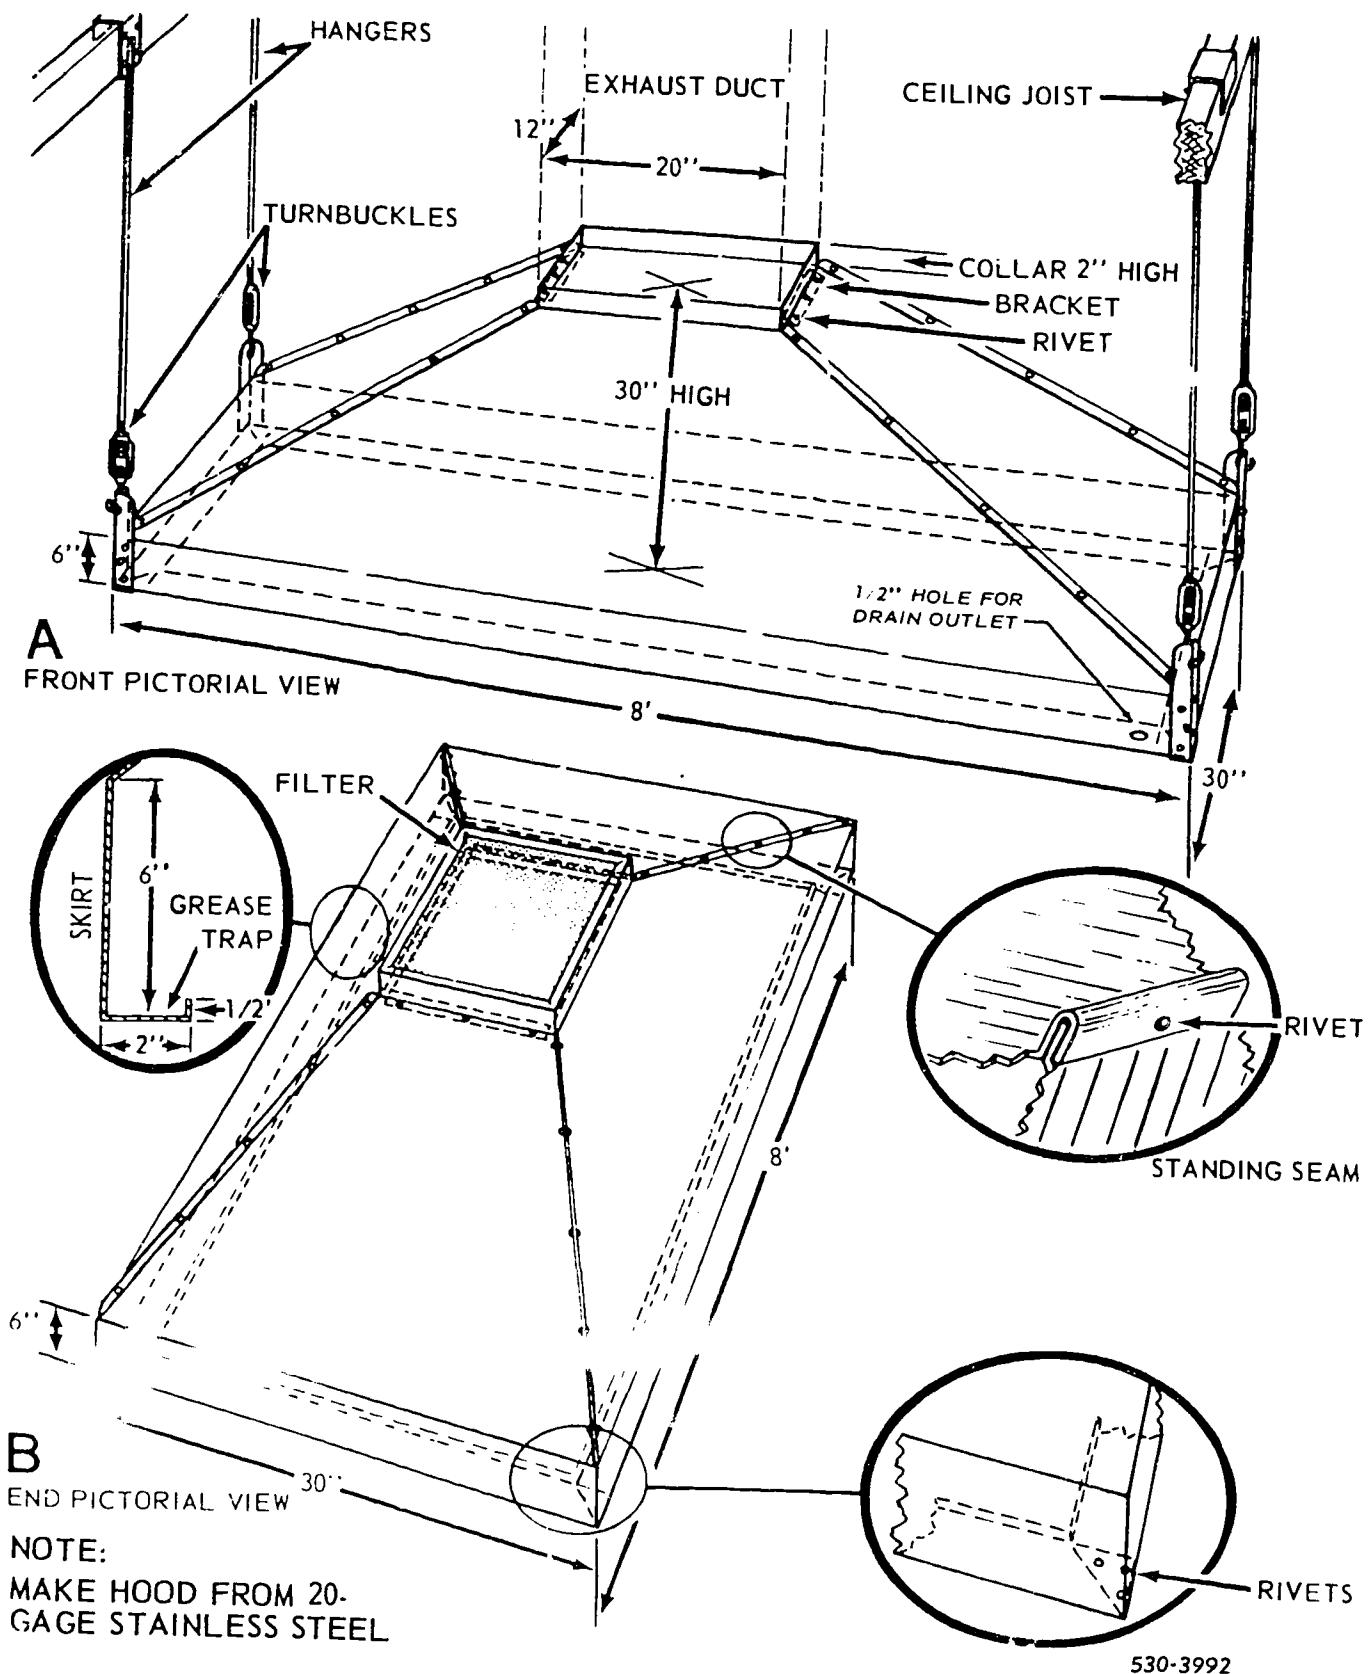
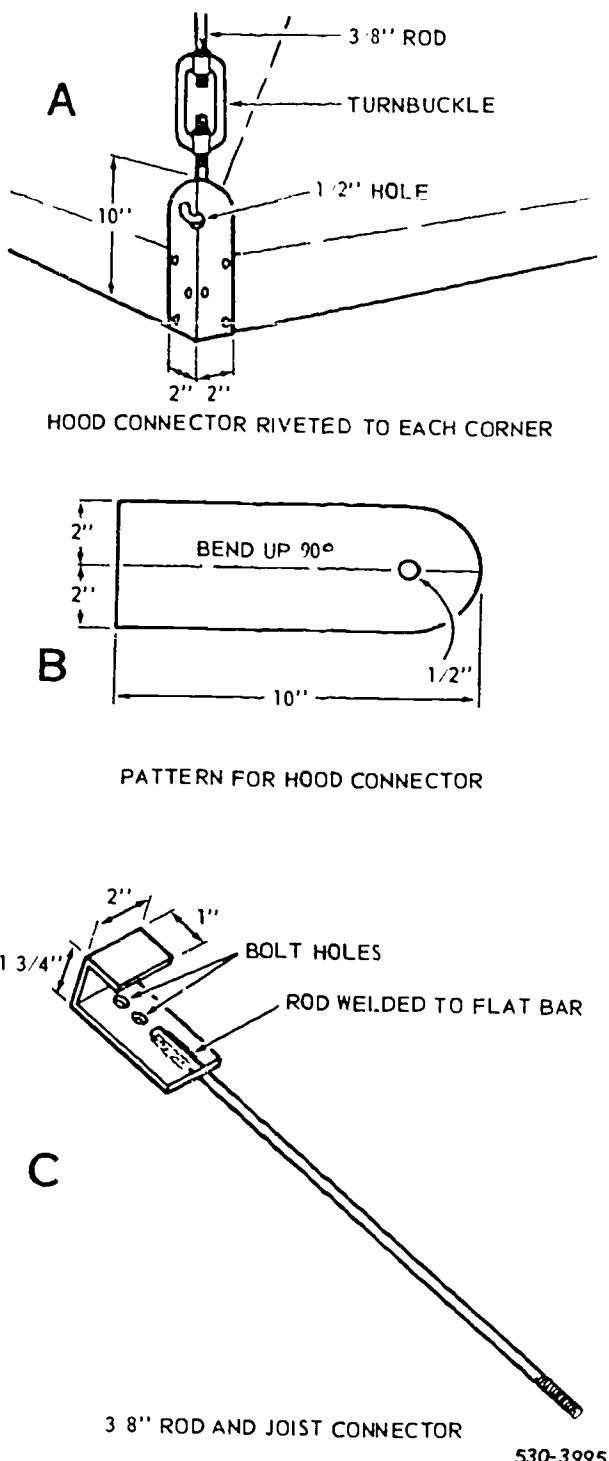

Figure 1-1 Pictorial view of a hood.
Figure 1-4. Hanger parts.
Range hoods are designed to capture fumes and gases from cooking ranges, coffee urns, dishwashing machines, and paint spray booths. The hood collects the air, which is carried away through a duct by exhaust fan suction. Range hoods are usually made of stainless steel and have grease filters that can be removed for cleaning. The inside bottom edge of the hood has a flanged edge (lip) that acts as a grease collector or trap. One corner of this grease trap has a drain plug for draining any grease that collects. Figure 1-1 shows the location and shape of the grease trap. You will encounter hoods of various sizes and shapes; however, the fabrication and installation is similar to that for the one shown in figure 1-1.
To fabricate a hood, you need to know the dimensions and shape. Figure 1-1 shows pictorial views and details of a hood that measures 8 feet long and 30 inches wide. It has a filter that fits inside the collar, and a drain plug in one corner of the grease trap. The collar at the top of the hood where the exhaust duct connects is 2"x 12"x 20". The corners of the grease trap and the standing seams are secured with Monel rivets.
**Pattern Layout for a Hood.** In figure 1-1, you can see that the hood is shaped somewhat like a transition. You should remember from (Volume 3) the triangulation method of layout that is used to develop patterns for transitions. A very similar method is used to lay out the pattern for this hood. This hood can be made in four pieces, as shown in figures 1-2 and 1-3. Notice that the front, back, and two sides will each be one piece.
The additions and seam allowances for the front and back pattern shown in figure 1-3 are made from information contained in the pictorial views of figure 1-1. Make the additions below the 8-foot line on the pattern, as follows: 6 inches for the skirt, 2 inches for the lip of the grease trap,  $\frac{1}{2}$  inch for the flange of the grease trap, and  $\frac{7}{16}$  inch for the hem. At the top of the pattern, make a 2-inch addition for the collar. Make a
Notches for the front and back pattern are somewhat different from those for other patterns discussed previously in this course. Notice in figure 1-3 that the 2-inch addition for the grease trap is notched at each end and that the same addition on the side pattern is not notched. The reason for this is that when the corners are joined, the 45° cut will be on the outside of the lap joint, and the mitered cut makes a more attractive corner. (Figure 1-1 shows how the finished corner looks and where the rivets are located.) Notice that the  $\frac{1}{2}$ -inch flange addition and the  $\frac{7}{16}$ -inch hem allowance (in fig. 1-3) are notched at 90° so that they will make butt joints when the corners are joined. The 2-inch allowance for the collar has 90° notches. The
**Assembly of a Hood.** Now that the pieces are cut, notched, and formed, the hood shown in figure 1-1 can be assembled. You can begin at any one of the four
The next part of the assembly procedure is to install Monel rivets at the corners of the grease trap. Make sure that the corners are square before you install the rivets. Carefully lay the hood on its front or back and use a carpenter's square. Install clamps at each corner to hold the corners until you install the rivets. You can doublecheck the squareness of the skirt corners by measuring the corners diagonally. The diagonals should be the same, if all corners are square. After you are certain that the hood is square, install Monel rivets in each of the four corners of the grease trap, as shown in figure 1-1. Solder the inside of the corner lap joint with 50/50 solder.
The two brackets to hold the filter are each made of 11" x 11" stainless steel and are bent 35° along the 11-inch centerline. Fasten these brackets to the sides of the hood with three Monel rivets near the collar (see fig. 1-1). The filter rests on the ½ inch-edge of metal that extends into the opening, and is removed by raising one end until the other end clears the bracket.
The corners of the hoods are supported with hanger parts, such as those shown in figure 1-4. Notice that the parts include a corner connector, turnbuckle, rod, and joist connector. The corner connector is made of 16-gage steel, using the pattern shown in figure 1-4, B, and is made long enough to extend 4 inches above the skirt of the hood. Cut the straight sides with the squaring shears, cut the rounded end with throatless shears, punch the ½-inch hole with a rotary punch, and make the 90° bend with a cornice brake. Then, attach each corner connector to the hood with Monel rivets, as shown in view A of figure 1-4.
The remaining parts of the hood hanger, shown in figure 1-4, C, are made in the welding shop. You will thread one end of a ¾ inch rod and weld the other end to a piece of 2-inch flat bar which is formed to fit over
**Installation of a Hood.** Before hanging a hood, such as that shown in figure 1-1, determine the location from the drawings or blueprints, then place the joist connectors (fig. 1-4) over the ceiling joists. With the hangers located so that the round rod hooks can be inserted into the corner connectors when the hood is raised into position, have three or more workers raise the hood and insert the hooks into the corner connectors. Level the hood by adjusting the turnbuckles; then slightly lower the drain corner and slightly raise the diagonally opposite corner so that the grease will drain when the plug is removed. Use wood screws to fasten each joist connector to the ceiling joists. The final steps of installation are to connect the exhaust duct, to remove the adhesive paper from the stainless steel, and to install the filter.